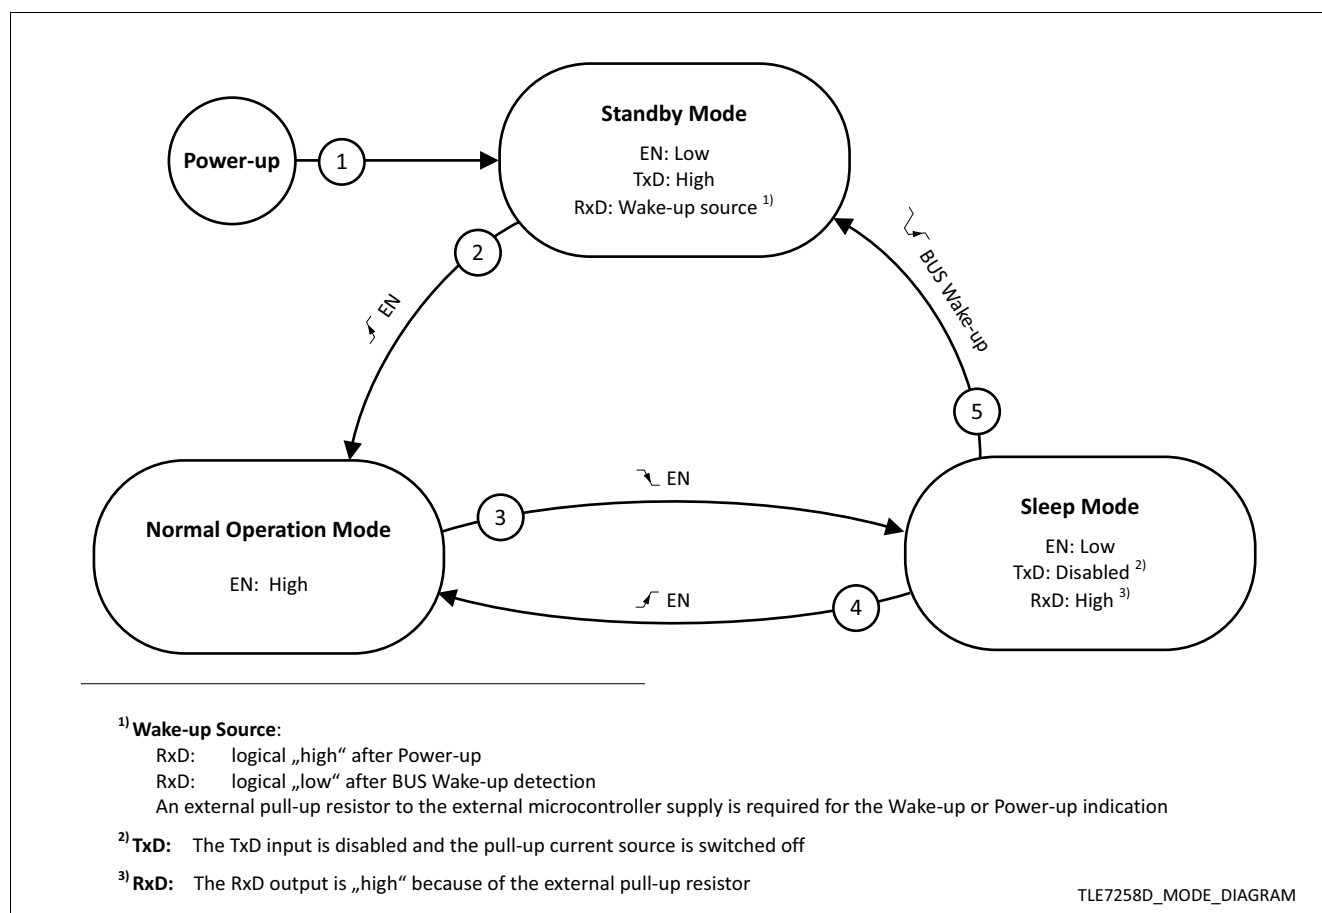
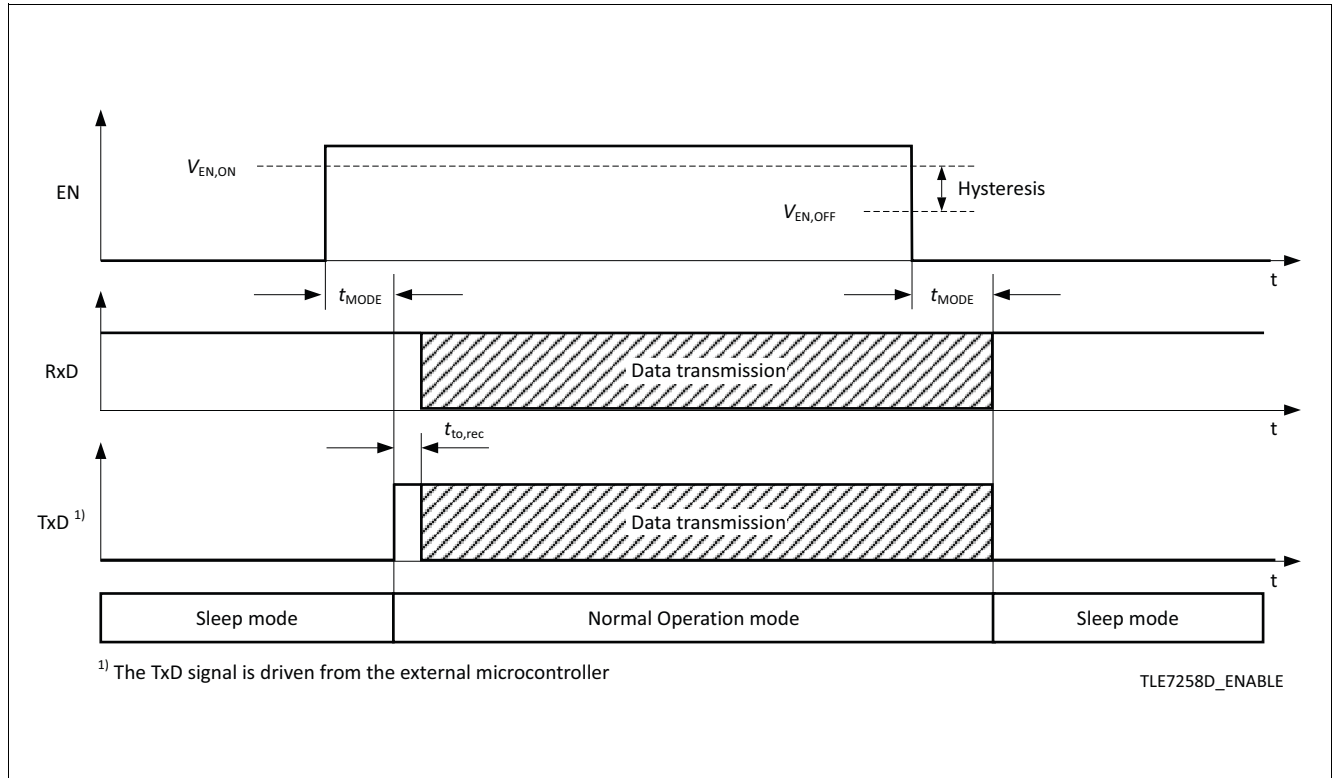

Figure 4 Operation mode state diagram
Figure 9 Entering Normal Operation mode from Sleep mode
The TLE7258D has 3 major operation modes (see Figure 4):
Normal Operation mode can be entered from either Sleep mode (see Figure 9) or from Standby mode (see Figure 5), by setting the EN input to logical "high". From Normal Operation mode the TLE7258D can only enter Sleep mode, it is not possible to enter Standby mode directly (see Figure 4).
- The RxD output indicates either a wake-up event or a power-up event (see Figure 4 and Table 1).
To switch the TLE7258D from Normal Operation mode to Sleep mode, the EN input has to be set to "low". Conversely a logical "high" signal on the EN input sets the device directly back to Normal Operation mode (see Figure 4). The TLE7258D can only enter Sleep mode from Normal Operation mode.
The EN input is used for operation mode control of the TLE7258D. By setting the EN input logical "high" for the time t_{MODE} while being Sleep or Standby mode, a transition to Normal Operation mode will be triggered (see Figure 9). The EN input has an integrated pull-down resistor to ensure the device remains in Sleep or Standby mode even if the EN pin is left open. The EN input has an integrated hysteresis.